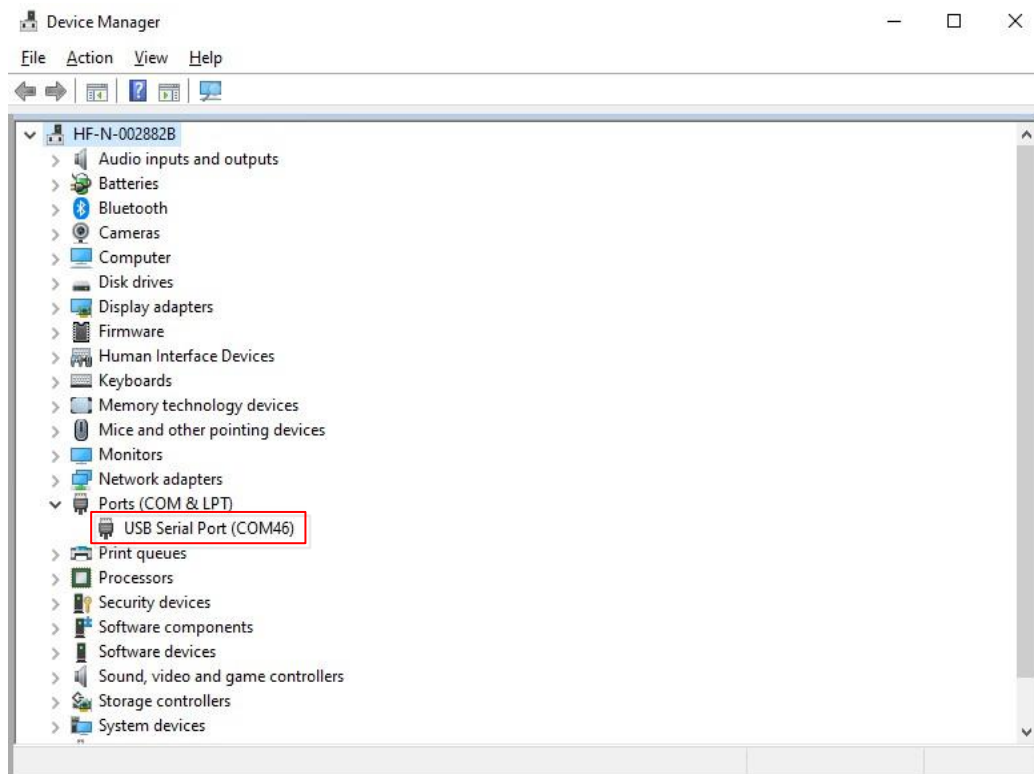

Figure 34: USB Ports
3. Select the correct “**COM Port**” (USB Serial Port, which is shown in **Figure 34**) and set correct “**Baudrate**” (115200 bps by default). For more details about QCOM usage and configuration, see **document [2]**.